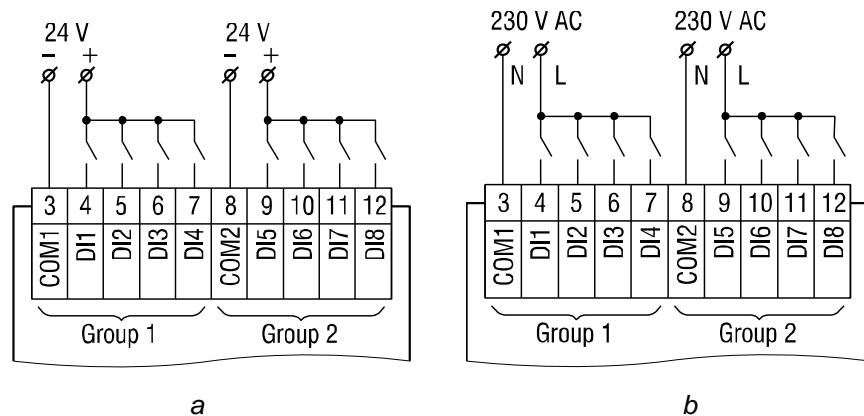

Fig. 3.2 Connection of switch contacts to digital inputs: a) 24.x.x, b) 230.x.x
- For I/O electrical connections, see Fig. 3.2...3.7